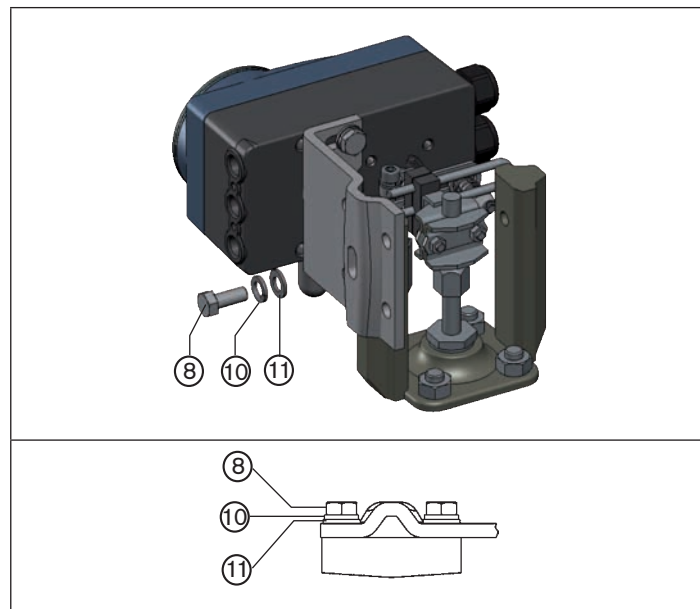

Fig. 10: Attach positioner with mounting bracket; for actuators with cast frame
→ Attach mounting bracket to the cast frame with one or more hexagon bolts ⑧, washers ⑪ and circlips ⑩ (see “Fig. 10”).